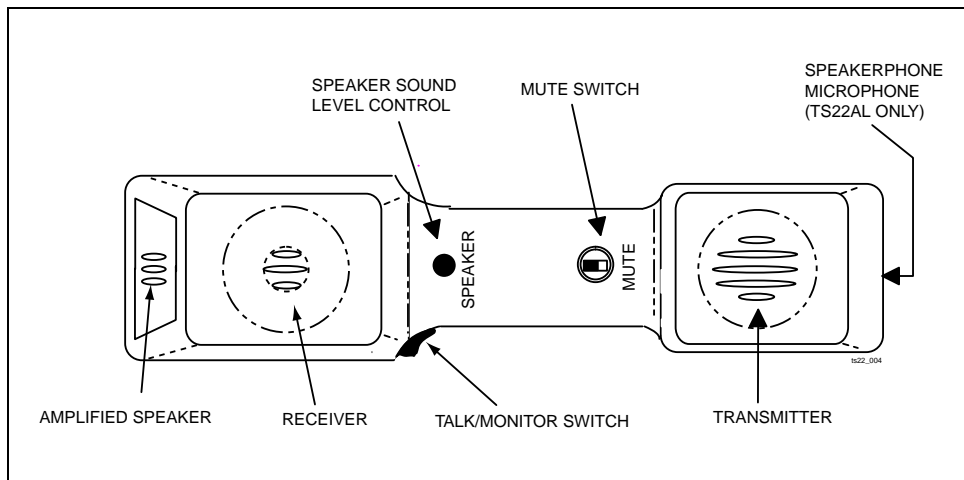

Figure 3. Controls and Indicators
- Talk/Monitor Switch** This slide switch is located on the side of the test set (see Figure 3). The T (TALK), position establishes an off-hook condition for dialing and talking as a common battery telephone. The M (MONITOR) position removes the transmitter from the circuit, and provides a high impedance coupling. In the TS22DS and TS22A, the M position provides a high impedance coupling, which allows line monitoring without disrupting conversations or signaling.